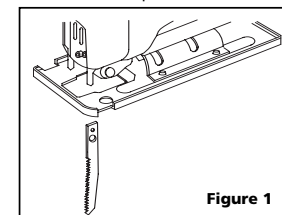

Figure 1
- Insert blade in slot with teeth facing forward (Figure 1). The blade's top should be inserted far enough to touch blade clip.